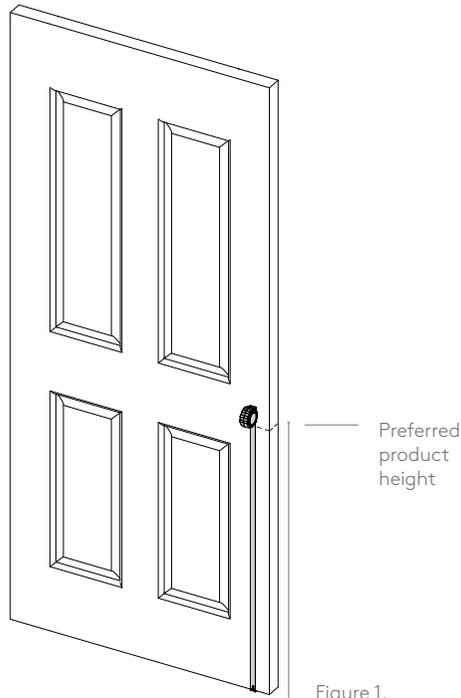

Figure 1.
- 1.1. Mark the edge of your door at the desired height of your escutcheon. This will generally be 85mm CTC (Centre to Centre) from the centre of the spindle hole of the door lever to the centre of the key hole.\* (Figure 1)